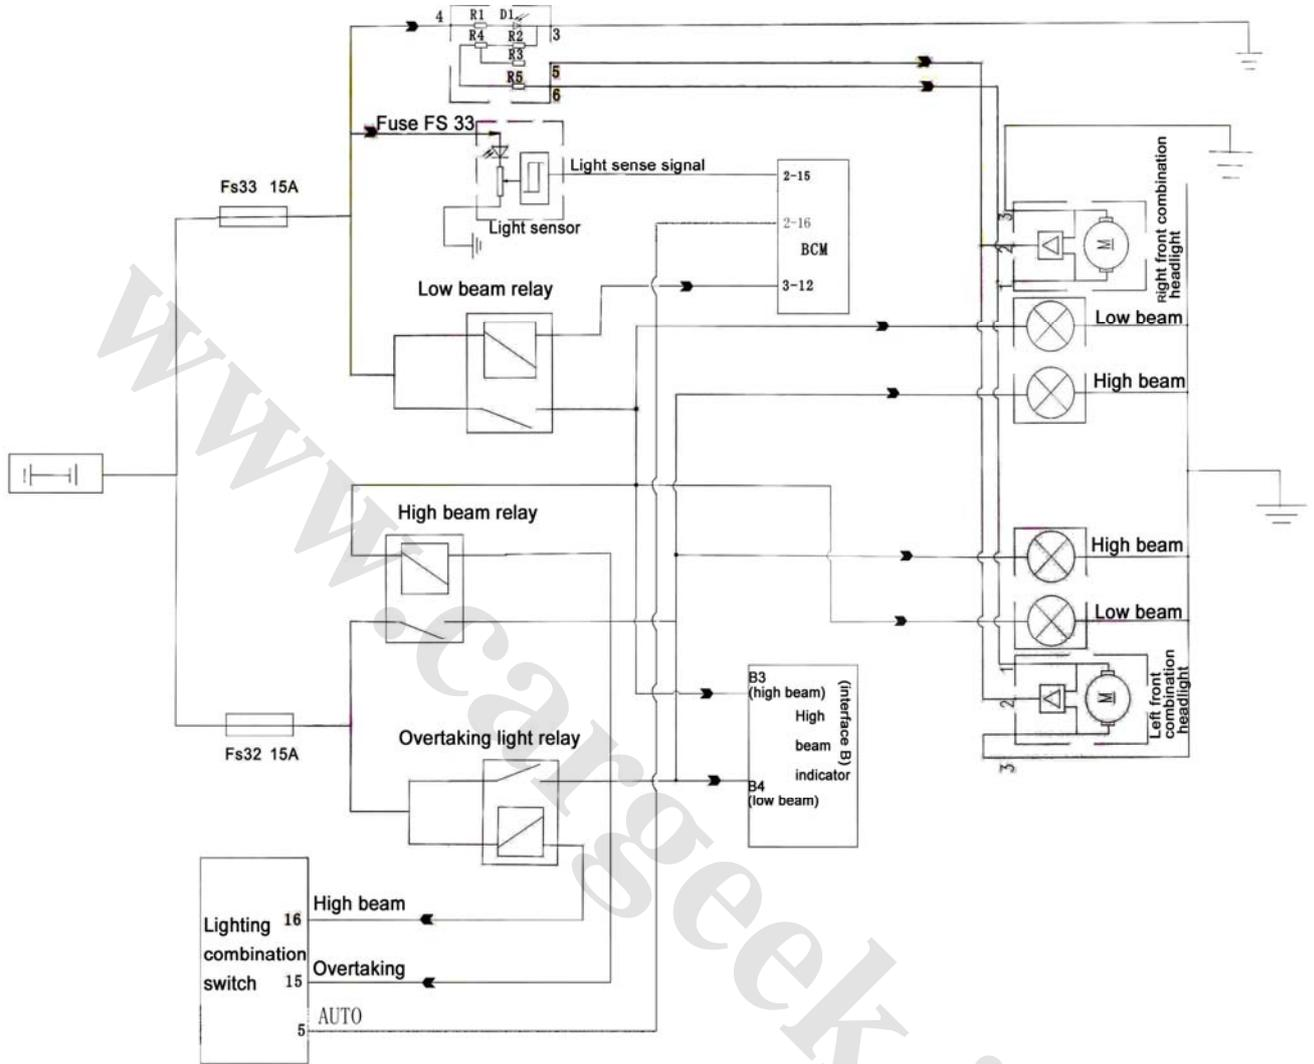

Fig. 4-62
1.2 Headlight checking circuit (Fig. 4-62)